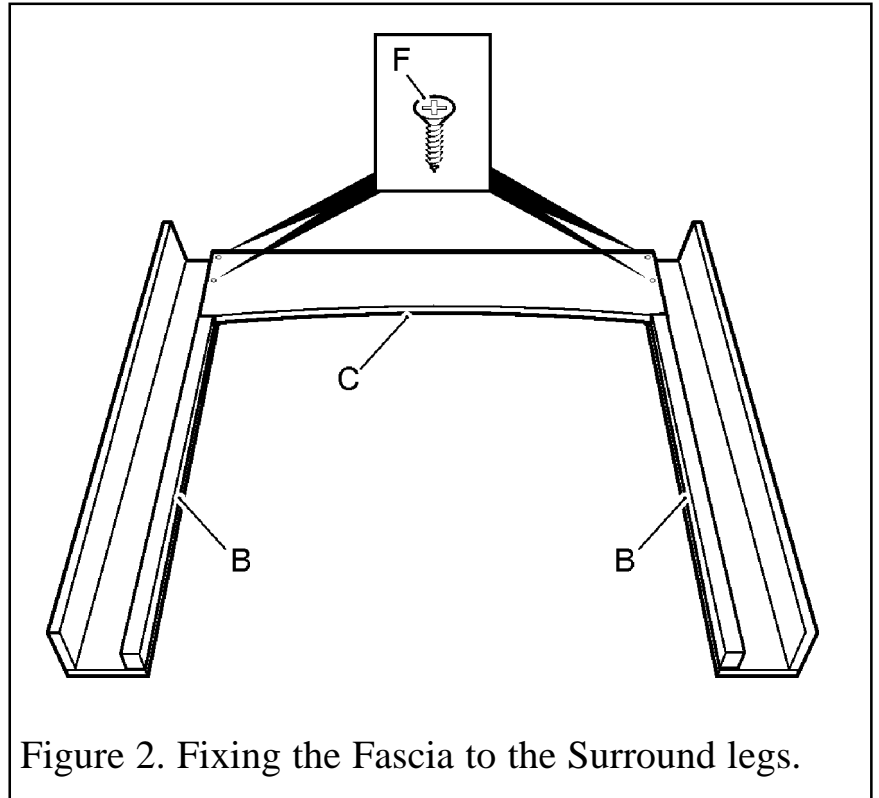

Figure 2. Fixing the Fascia to the Surround legs.
- Take the Fascia (C) and locate it to Legs (B) using screws (F) (See figure 2).